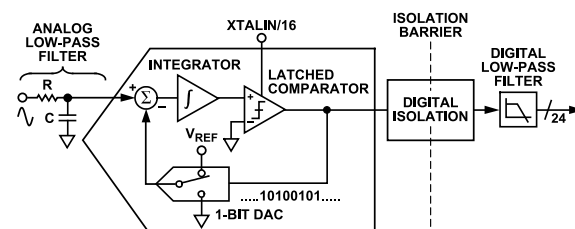

Figure 32. First-Order  $\Sigma$ - $\Delta$  ADC
The ADE9103/ADE9112/ADE9113 have three, second-order, multi-bit  $\Sigma$ - $\Delta$  ADCs. For simplicity, the block diagram in Figure 32 shows a first-order  $\Sigma$ - $\Delta$  ADC. The converter is composed of the  $\Sigma$ - $\Delta$  modulator and the digital low-pass filter (LPF), separated by the digital isolation block.
Figure 32 shows an analog LPF (RC) on the input to the ADC. This filter is placed outside of the ADE9103/ADE9112/ADE9113, and its role is to prevent aliasing. Aliasing is an artifact of all sampled systems, as shown in Figure 34. Aliasing refers to the frequency components in the input signal to the ADC that are higher than half the sampling rate of the ADC and appear in the sampled signal at a frequency less than half the sampling rate. Frequency components more than half the sampling frequency (also known as the Nyquist frequency, that is, 512 kHz) are imaged or folded back down to less than 512 kHz, which happens with all ADCs, regardless of the architecture. In Figure 34, only frequencies near the sampling frequency of 1.024 MHz move into the bandwidth of interest for metering, that is, 40 Hz to 3.3 kHz, or 40 Hz to 2 kHz. To attenuate the high frequency noise (near 1.024 MHz) and prevent the distortion of the bandwidth of interest, a LPF must be introduced. It is recommended that one RC filter with a corner frequency of 7 kHz be used for the attenuation to be sufficiently high at the sampling frequency of 1.024 MHz. The 20 dB per decade attenuation of this filter is usually sufficient to eliminate the effects of aliasing.